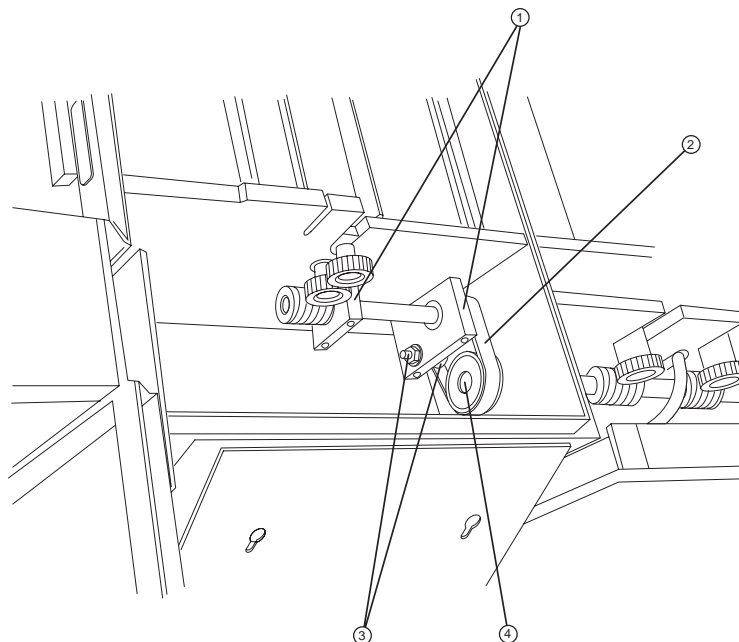

Figure 3-21 Entry rack drive belt assembly.
4. Remove the bolts securing the bearing blocks. Refer to Figure 3-21.